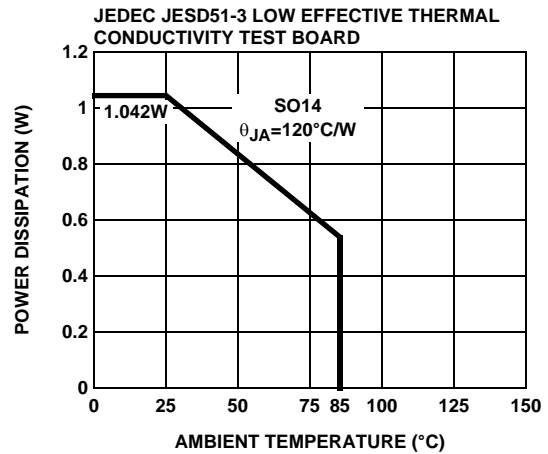
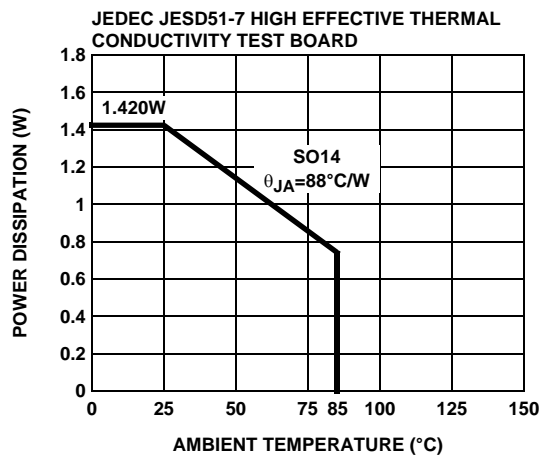

FIGURE 26. PACKAGE POWER DISSIPATION vs AMBIENT TEMPERATURE
FIGURE 27. PACKAGE POWER DISSIPATION vs AMBIENT TEMPERATURE
**Caution:** For supply voltages greater than 20V, the maximum power dissipation at 85°C ambient temperature could be exceeded. For higher supply voltages the maximum ambient temperature must be de-rated according to the Package Power Dissipation curve Figure 27. The maximum power dissipation is highly dependent upon the thermal conductivity of the PCB. For lower thermal conductivity boards use Figure 26.